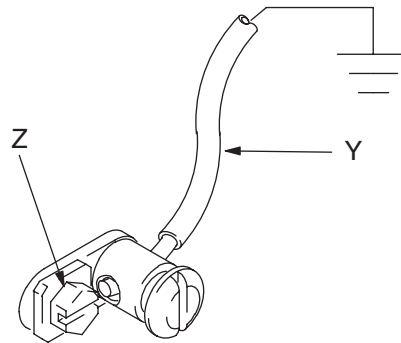

FIG. 1
**To ground the pump:** Remove the ground screw (Z) and insert through the eye of the ring at the end of the ground wire (Y). Fasten the ground screw back onto the pump and tighten securely. Connect the other end of the ground wire to a true earth ground. See FIG. 1. To order a ground wire and clamp, order Part No. 222011.